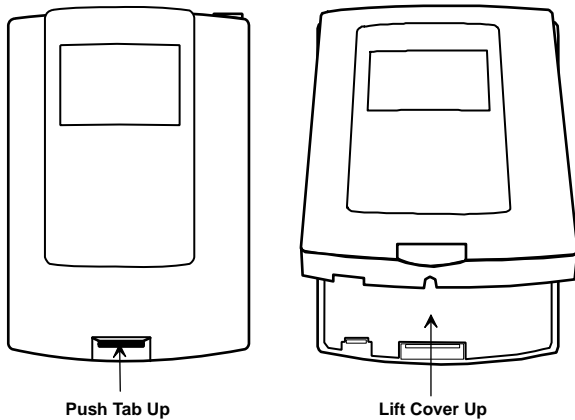

Figure 2. Removing the Cover
1. Remove the DTIM cover and set it aside (see Figure 2).